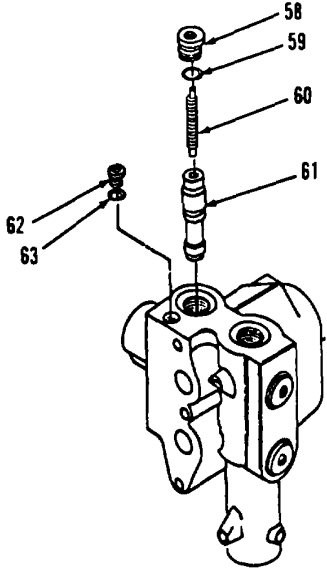
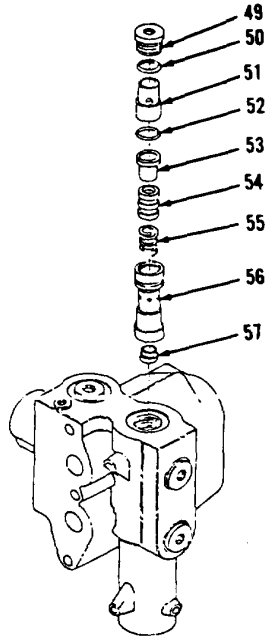

Figure 8-27.
Figure 8-26.
4. Install new preformed packing (63) and plug (62, Figure 8-27).
5. Install stem assembly (61), piston (60), new preformed packing (59) and plug (58).
6. Install seat (57), body (56), spring (55), valve (54), spacer (53), new preformed packing (52), spacer (51), new preformed packing (50) and plug (49, Figure 8-26).